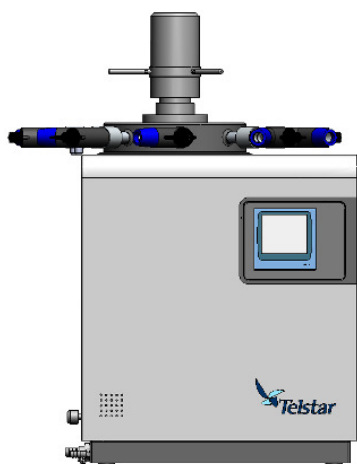

Fig. 5
- **Inside the condenser** (see Fig. 5): It is advisable to load the product only on the lower and middle plates. The higher plates do not receive cold as do the other plates because the vacuum supply is placed at top of the condenser. The equipment allows you to program recipes (see chapter 10) to run a complete cycle without making any manual actions.